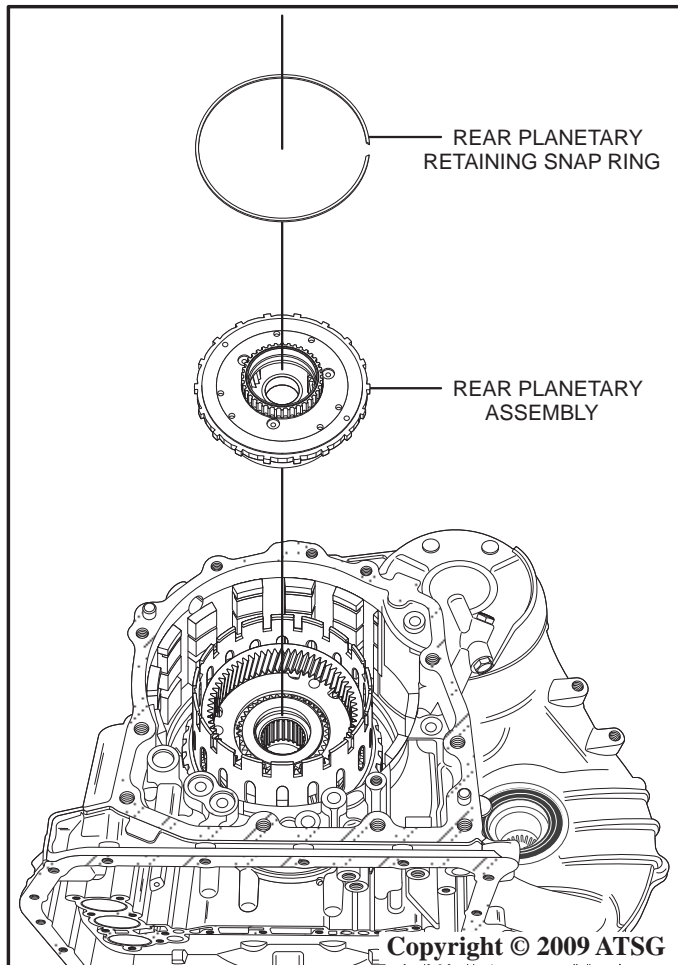

Figure 52
84. Using a screwdriver, remove the rear planetary retaining snap ring as shown in Figure 52.
85. Remove the rear planetary assembly by lifting straight up as shown in Figure 52.